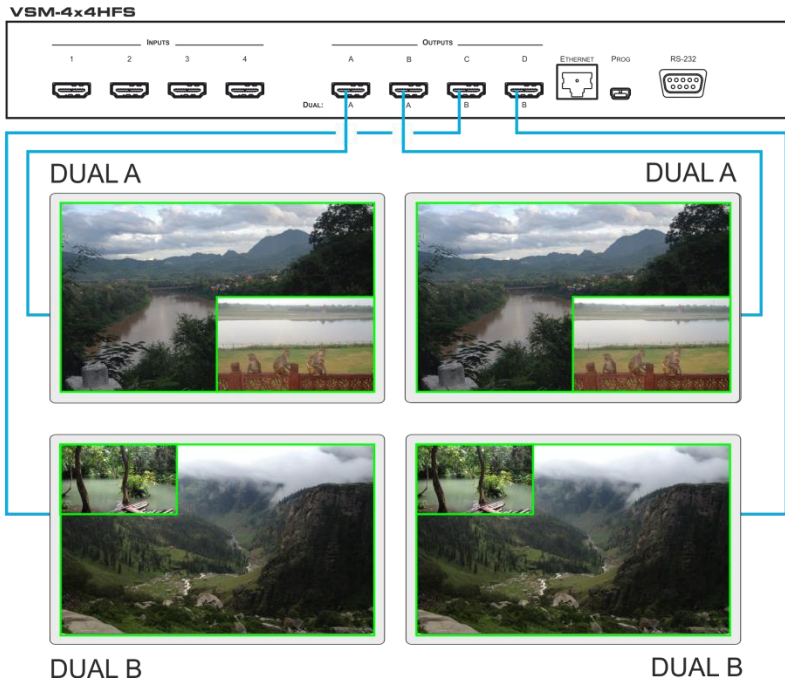

Figure 7: Connecting the VSM-4x4HFS in the Dual Operation Mode
In the Dual operation mode the **VSM-4x4HFS** is set as a 4x2 switcher with picture-in-picture capabilities that outputs two identical A outputs and two identical B outputs (see Figure 7).
To connect in the Dual mode as illustrated in Figure 7, do the following:
1. Connect an HDMI source (for example, a Blu-ray disk player) to the INPUT 1 connector (from 1 to 4), not shown in Figure 7.
3. Connect the power cord (not shown in Figure 7).